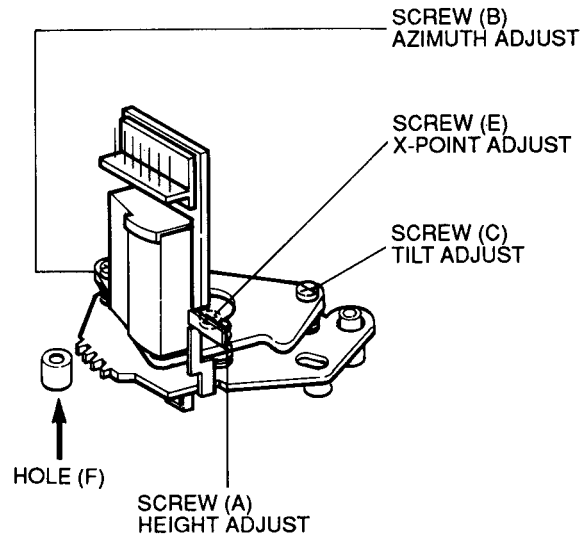
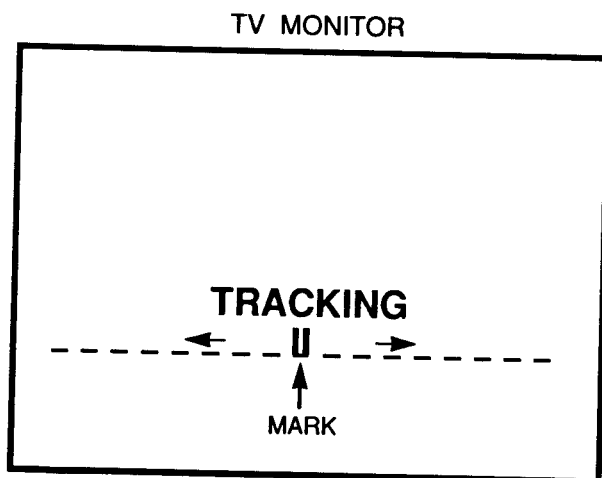

Fig. 4 Location of A/C Head Adjustment Screw
Fig. 8
(Refer to Fig. 4 and 5)
3. Adjust screw (B) vertically to achieve maximum audio level. (See Fig. 4)
4. After playback operation, push the "TRK TEST" button of Timer PCB so that OSD mark on the TV monitor is set as shown in Fig. 8.
5. Turn the screw (E) counterclockwise.
6. Insert the adjusting driver (X-Point) into the hole (F) of main base and adjust the A/C head ass'y so that envelope waveform is maximum amplitude and then tighten the screw (E). (See Fig. 4)
3. Turn the A/C head height adjusting screw (A), (B), (C) until the gap of lower tape edge and lower edge of the control head is about 0.25mm shown in Fig. 4 and 5.
2. Adjust the A/C azimuth adjusting screw (B) for maximum audio output as shown in Fig. 4.
3. Insert the adjusting driver (X-Point) in to the hole (F) of main base and turn the adjusting driver slowly so that video envelope reach a peak level and then tighten the screw (E). (See Fig. 4)